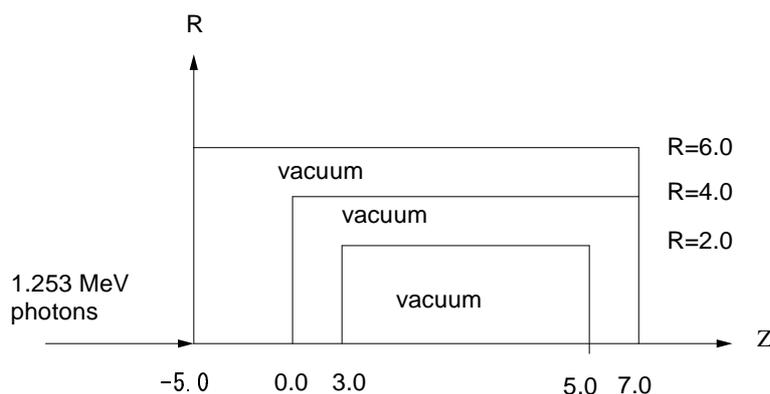

Figure 1: Geometry of `ucsource.f`
The geometry used in `ucsource.f` is cylindrical with cg, as shown in Fig.1. All regions are set to vacuum (0) to test the source. A 1.253 MeV photon pencil beam enters the cylinder from  $Z=-5\text{cm}$  along the  $Z$ -axis.